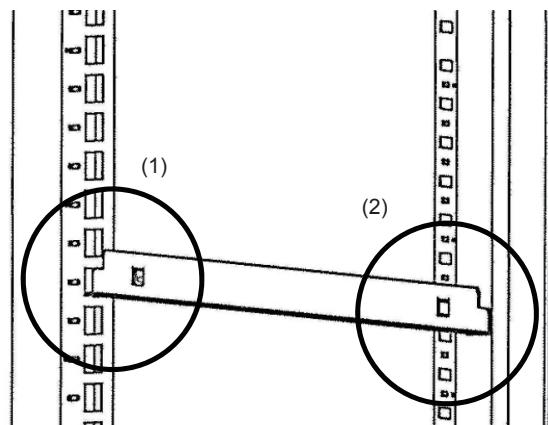

Fig. 8
- * To attach the rail, (1) push the rail hook backwards to fit into the square hole in the rear shelf post, and (2) push the rail hook down to fit into the square hole in the front shelf post. To detach the rail, reverse the above procedure. See Fig. 8.